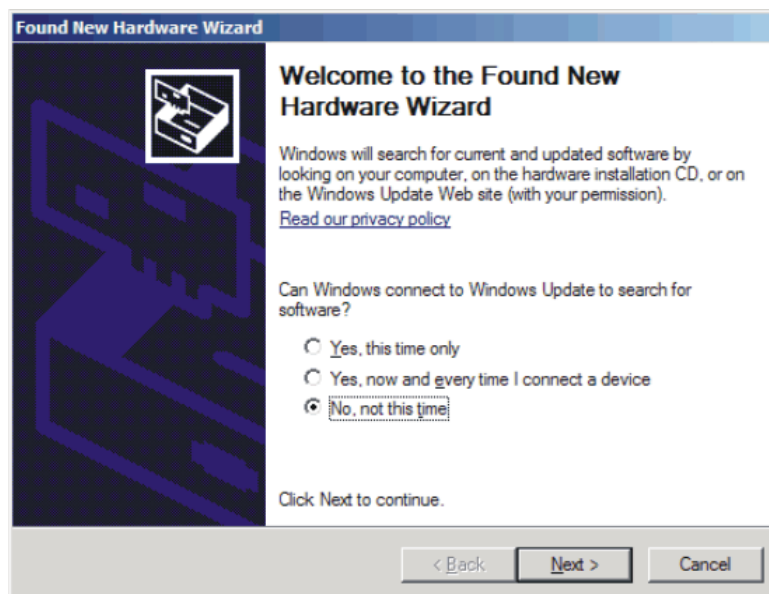
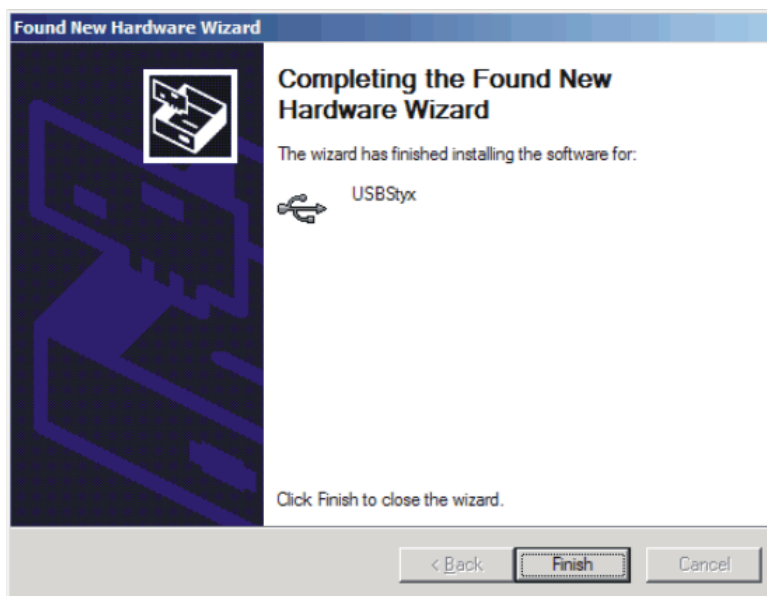

Figure 24. Install New Driver Wizard Screen 1
Figure 28. Install New Driver Wizard Screen 5
4. If you have not yet loaded the operating system drivers, Windows will display the Windows *Install New Driver Wizard* sequence (illustrated in Figure 24 through Figure 28). Accept the default settings.